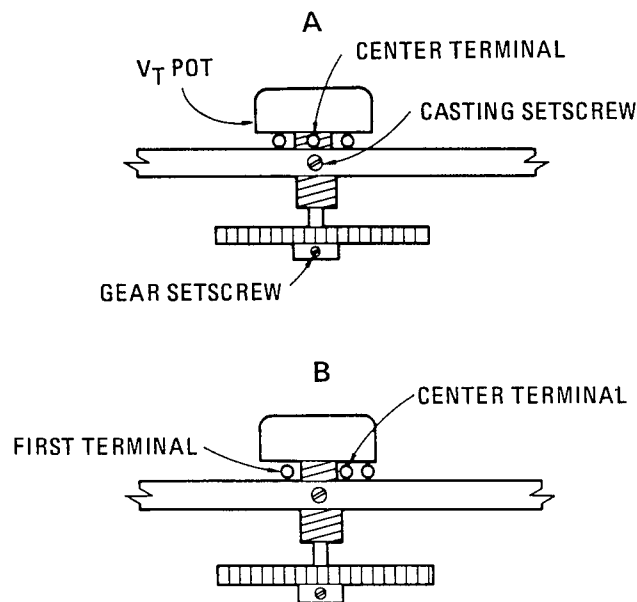

Figure 5-3.  $V_T$  Pot Adjustment
3. Install pot with gear in casting so that center terminal (934 wire) is in line with casting setscrew (see Figure 5-3,A).